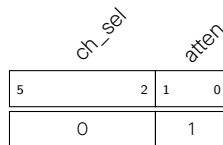

Figure 39-16. SAR ADC1 cmd1 Configuration
- Channel 0, with the attenuation of 2.5 dB. See Figure 39-16.